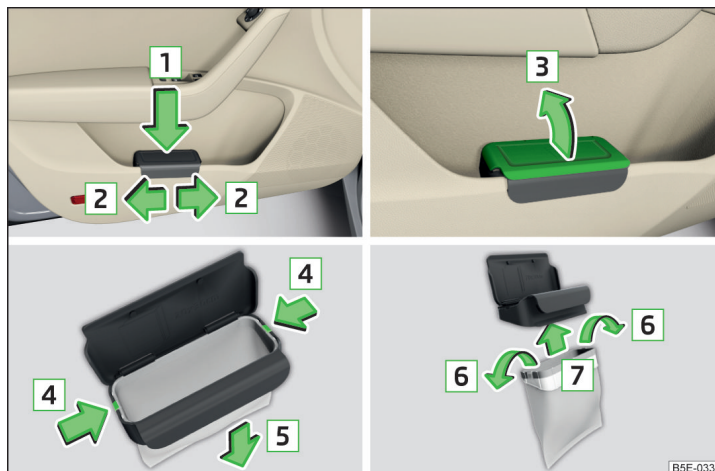

Fig. 88 Waste container: insert and move/open/replace bag
- › Push the waste container to the back in the direction of the arrow **1** » Fig. 88.
- › Remove the waste container in the opposite direction to the arrow **1** » Fig. 88.
- › Open the waste container in the direction of the arrow **3** » Fig. 88.
- › Push the two catches of the inner frame out of the container body in the direction of the arrow **4** » Fig. 88.